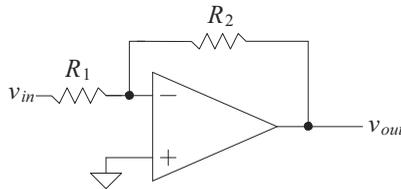

Figure 31.68 How finite open-loop gain effects closed-loop gain, problem 31.32.
31.32 You have just measured the gain of the op-amp circuit shown in Fig. 31.68. You know from basic op-amp theory that the gain of the circuit should be $-R_2/R_1$ V/V. However, your measurements with $R_2 = 10$ k Ω and $R_1 = 1$ k Ω revealed that the gain was only -5 V/V. What is the open-loop gain of the op-amp?